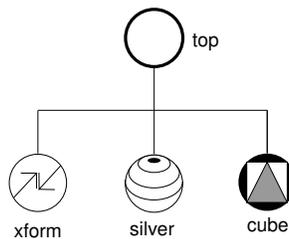

Figure 1-3 Simple scene graph
- Figure 1-3** Simple scene graph 4
A *scene graph* is an ordered collection of nodes. Hierarchical scene graphs are created by adding nodes as *children* of group nodes. Figure 1-3 shows a simple scene graph. The top node of the graph (in this figure, “top”) is called the *root* node. The Inventor scene database can contain any number of scene graphs, each consisting of a related set of 3D objects and attributes. Typically, a 3D scene or a set of object files contains only one scene graph. However, this is not a restriction.